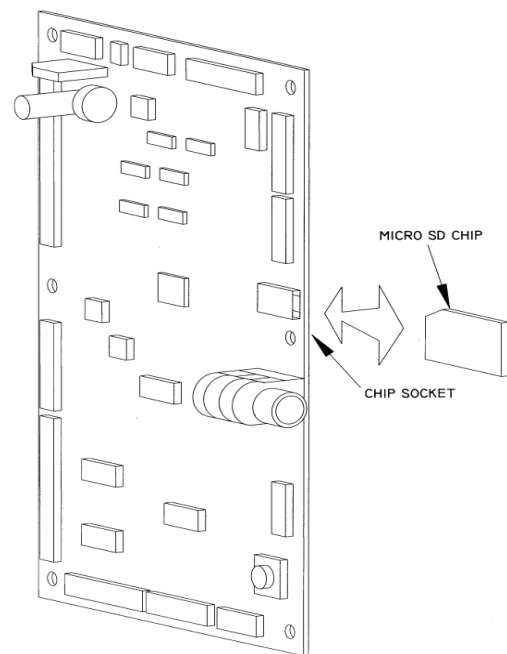

Figure 8.1 Loading VMC Firmware
2. Locate the socket for the micro SD Card (see Figure 8.1).
2. Locate the socket for the micro SD Card (See Figure 8.1).